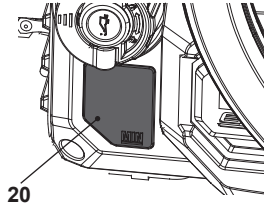

Fig. 10
4. Don't fill the oil lower than the "MIN" mark on the oil level window (20), but also do not overfill or and leave approximately 5 mm of space between the top of the oil and the inside edge of the tank to allow for expansion (Fig. 10).